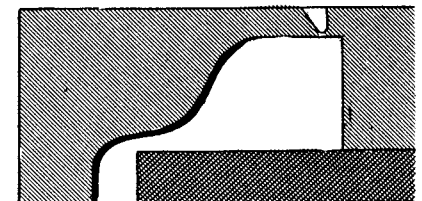

FIG. 504
17. Raise the tool and move the work to the left (Fig. 504).